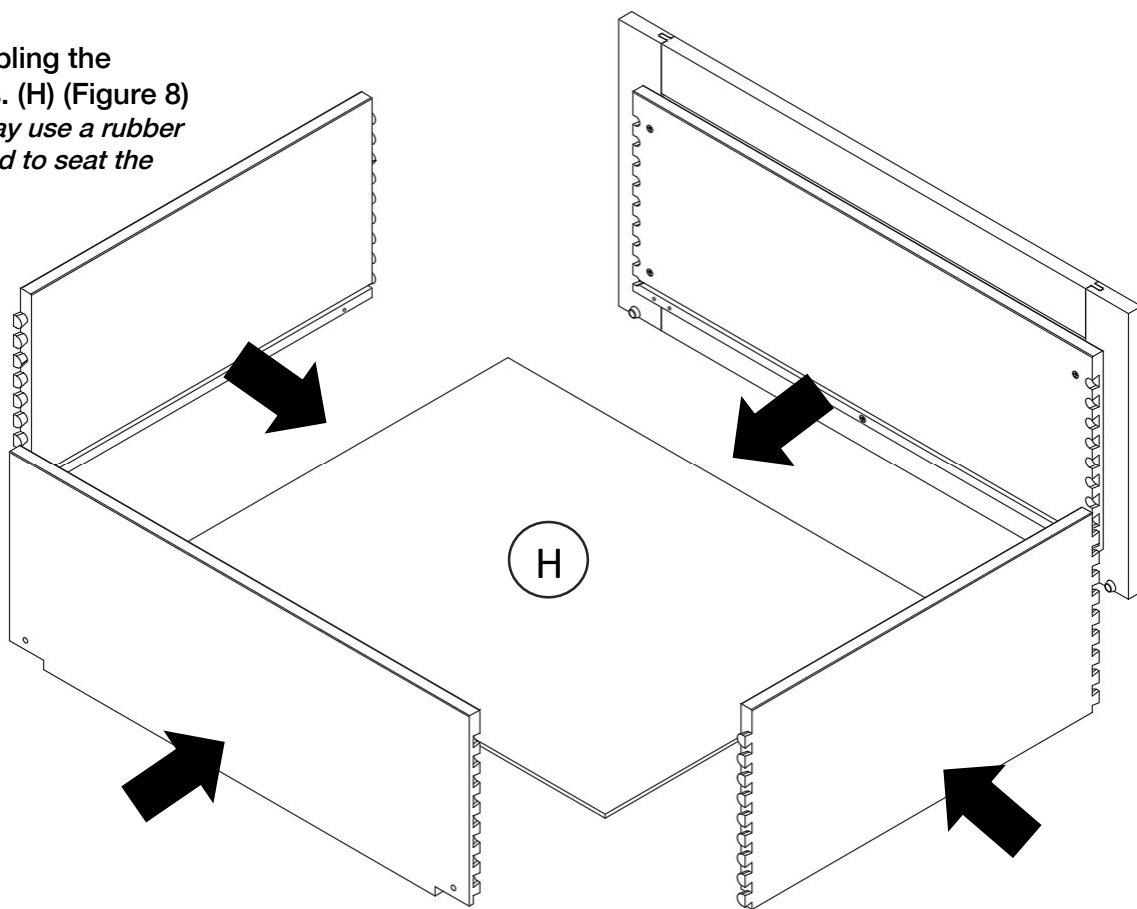

Figure 8
Finish assembling the drawer boxes. (H) (Figure 8)